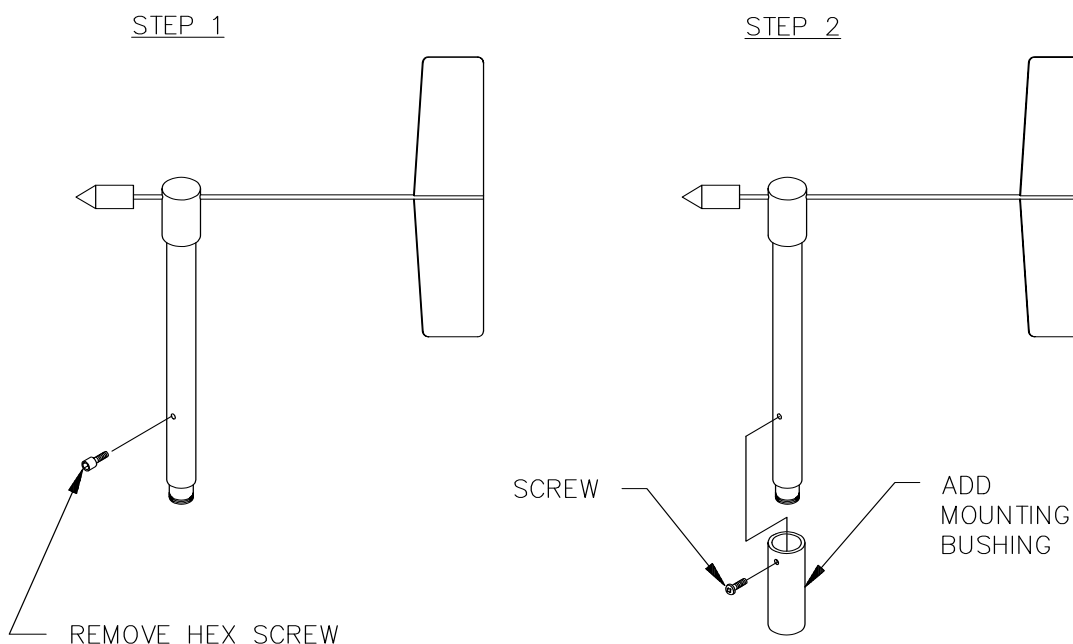

FIGURE 4-1. Bushing installation on 024A sensor
1. Remove the Allen hex screw in the lower part of the sensor housing (see FIGURE 4-1).
2. Insert the 024A in the mounting bushing (see FIGURE 4-1).
3. Tighten the screw in the bushing onto the sensor housing (see FIGURE 4-1).